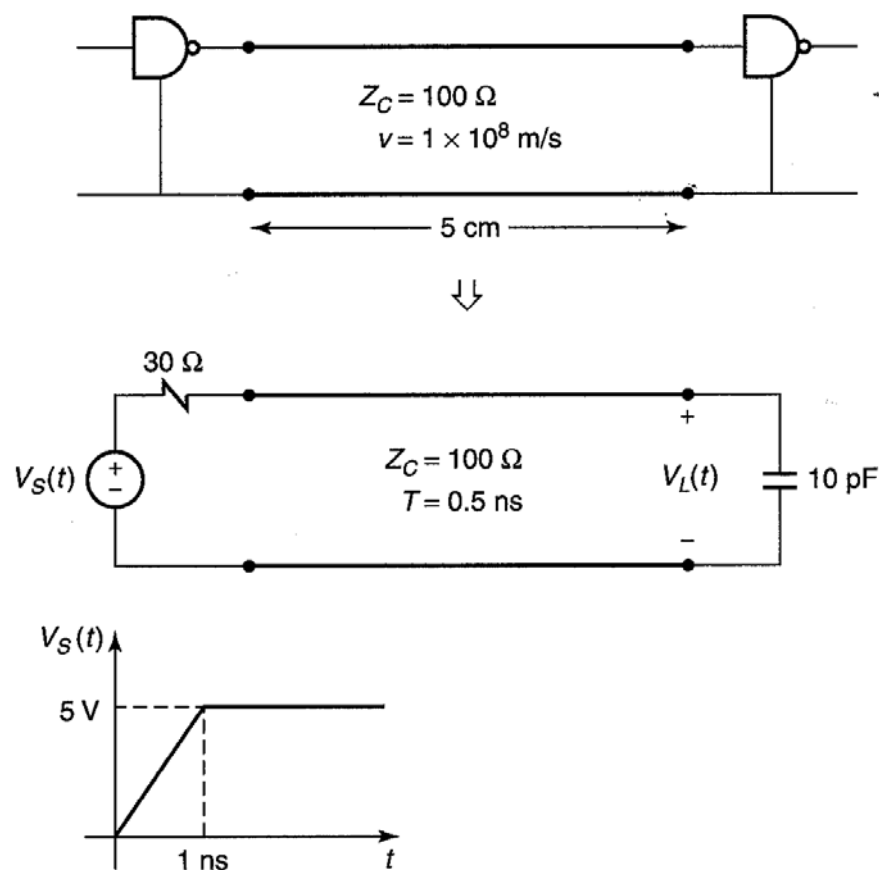

Figure P6.2.27 Problem 6.2.27.
6.2.27. One of the important advantages in using SPICE to solve transmission-line problems is that it will readily give the solution for problems that would be difficult to solve by hand. For example, consider the case of two CMOS inverter gates connected by a 5-cm length of 100- Ω transmission line as shown in Fig. P6.2.27. The output of the driver gate is represented by a ramp waveform voltage rising from 0 V to 5 V in 1 ns and a 30- Ω internal source resistance. The receiving gate is represented at its input by 10 pF. Because of the capacitive load, this would be a difficult problem to do by hand. Use SPICE (PSPICE) to plot the output voltage of the line, $V_L(t)$, for $0 < t < 10$ ns. Observe in the solution that this output voltage varies rather drastically about the desired 5 V level going from 4.2 V to 7 V before it stabilizes to 5 V well after 10 ns.